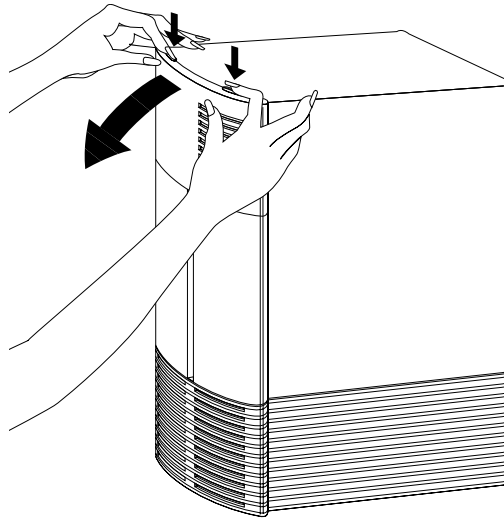

Figure 6-19 Replacing the Front Plastic Cover
- Tilt the panel up to the chassis, as shown in Figure 6-19. The cover snaps in place.